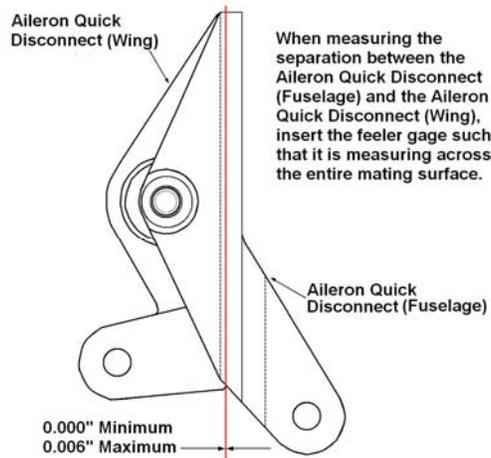
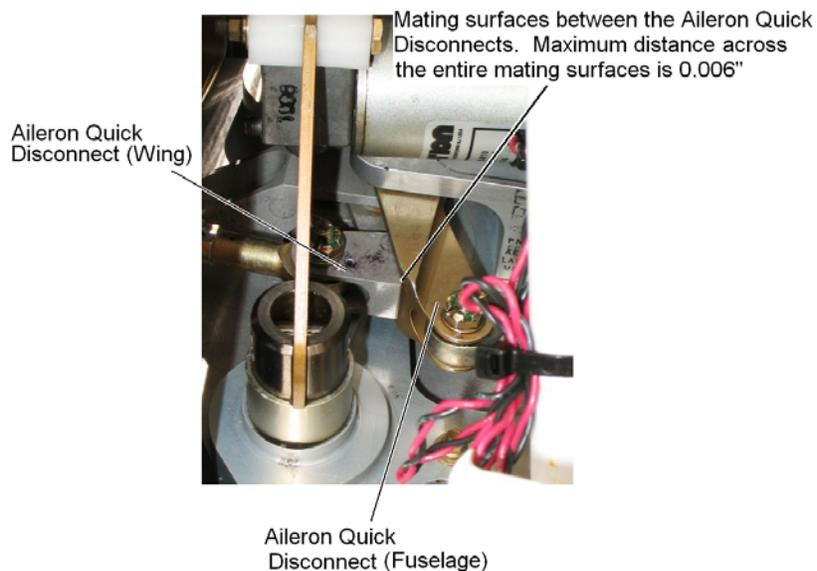

Figure 27-84 Aileron Quick Disconnect Clearances
Figure 27-85 Aileron Quick Disconnect
4. When using the filler gage to measure the gap between the mating faces of the quick disconnect, the gage must be fully inserted such that it is making contact along the entire surface area between the disconnects. For additional information, see Figure 27-84 and Figure 27-85.